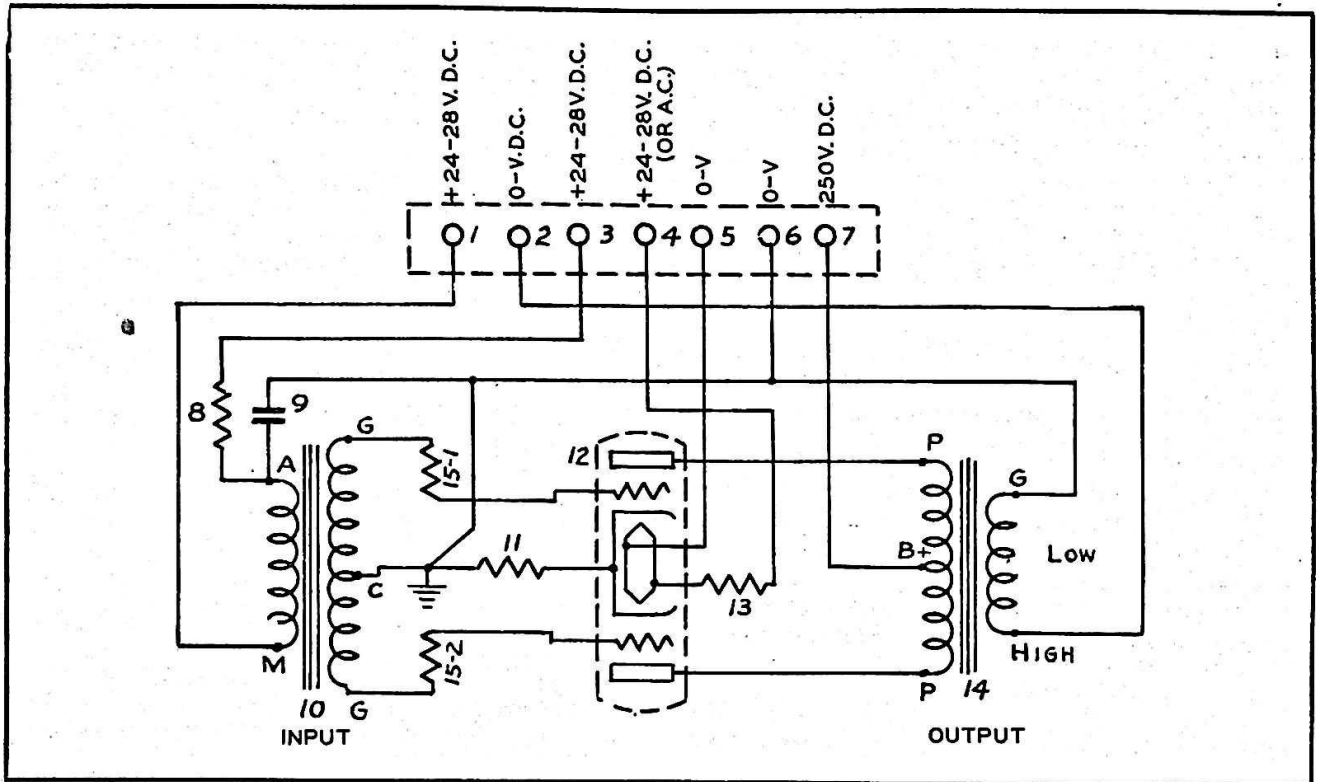
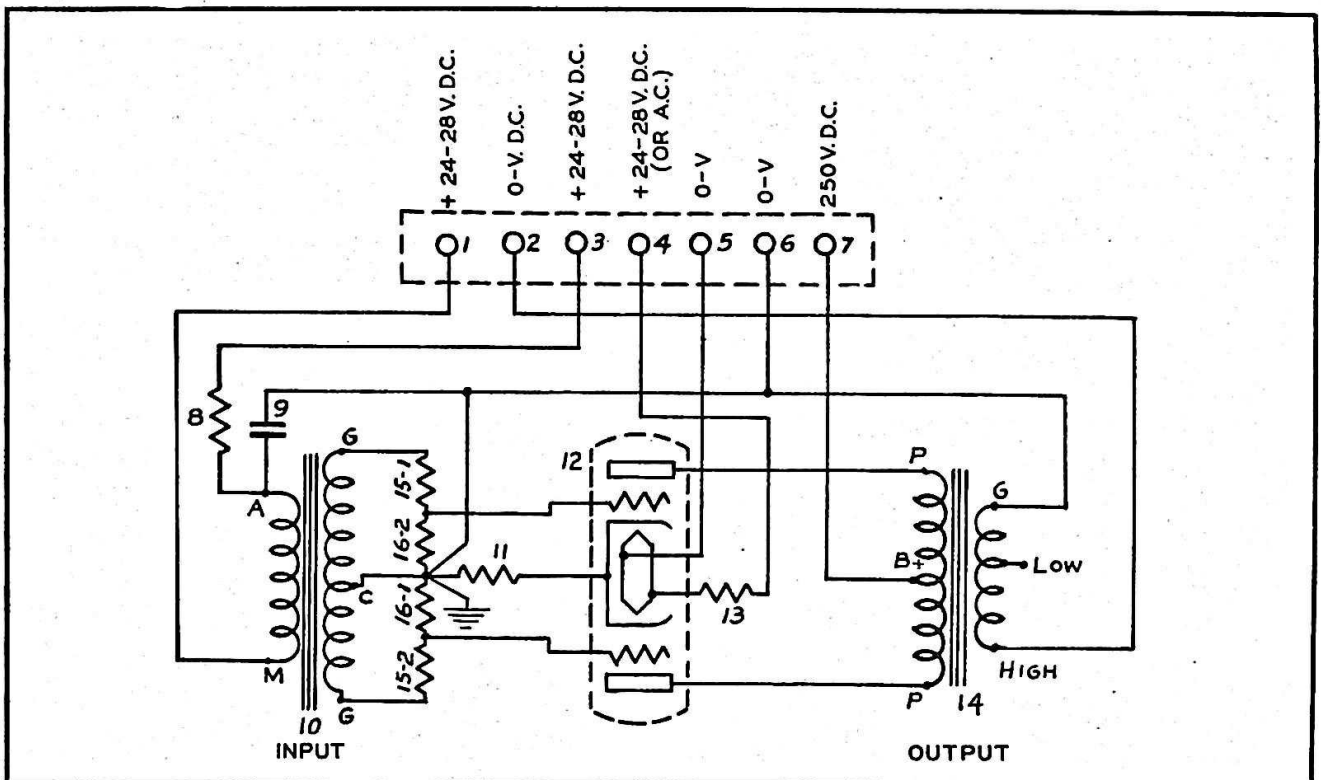

Figure 1-10. Interphone Amplifier BC-347-C—Schematic Circuit Diagram
Figure 1-11. Interphone Amplifier BC-347-A "Modified"—Schematic Circuit Diagram
a. INTERPHONE AMPLIFIER BC-347-C.—(See figure 1-10.) Primary power for the amplifier tube filaments and the microphone is obtained from the aircraft battery through the main battery switch and enters the amplifier on terminals 3 and 4 of the jack terminal strip. A 35-ohm series resistor 13 drops the 28 volt d-c line voltage to the 6.3 volts required for the filaments of tube JAN-6F8G. (VT-99). High voltage power for the tube is obtained from Dynamotor Unit PE-86-() or the dynamotor unit of a radio set associated with the interphone equipment, and enters the amplifier through terminal 7 of the jack terminal strip. Current for the microphone is obtained from the 28 volt d-c line at terminal 3 of the plug terminal strip through the 350-ohm resistor (8). The 50 microfarad electrolytic capacitor (9) in conjunction with 350 ohm resistor (8)
b. INTERPHONE AMPLIFIER BC-347-A "MODIFIED." (See figure 1-11).—Interphone Amplifier BC-347-A "Modified" is similar to Interphone Amplifier BC-347-C (See Fig. 1-10) except that the turns ratio of the transformers are different and a grid resistor network, consisting of two 2-megohm resistors 15 and two 750,000-ohm resistors 16, is used in place of the 350,000-ohm resistors 15 employed in Interphone Amplifier BC-347-C.